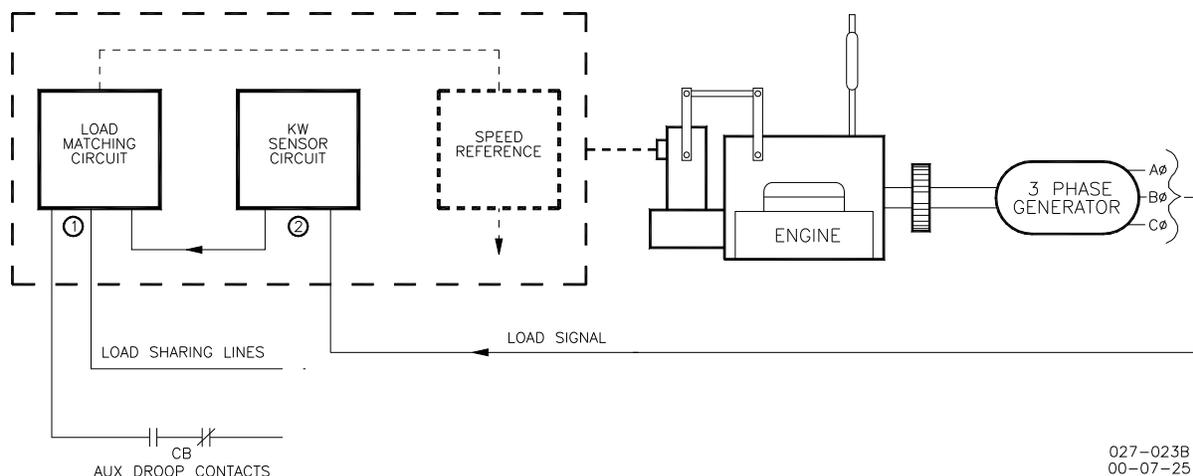

Figure 3-4. Paralleling System
There are two basic methods used for paralleling: droop, where speed decreases with load increase, and isochronous, where speed remains constant with load increase. The paralleling system shown in Figure 3-4 consists of a load matching circuit (1), and kW sensor circuitry.